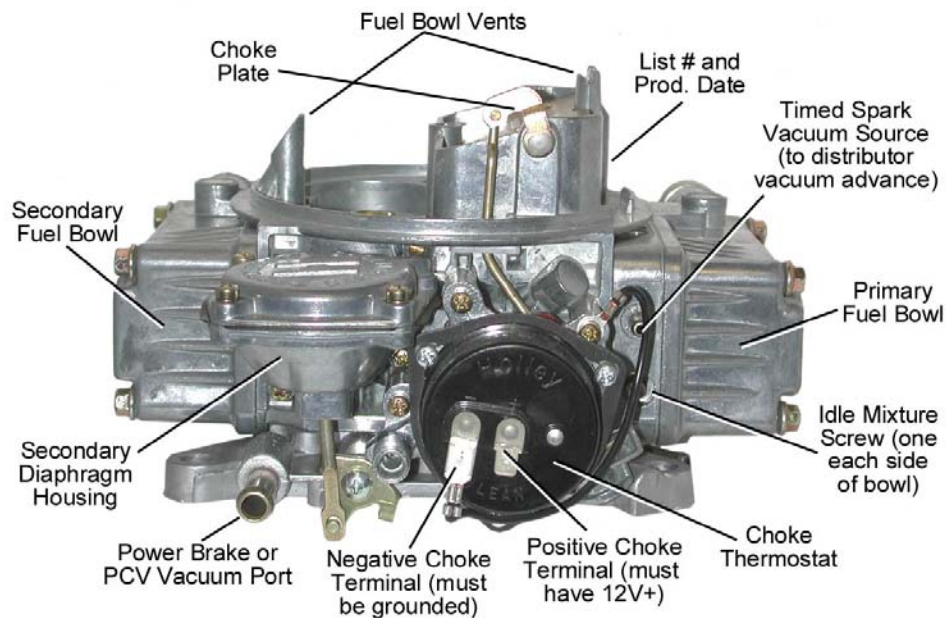
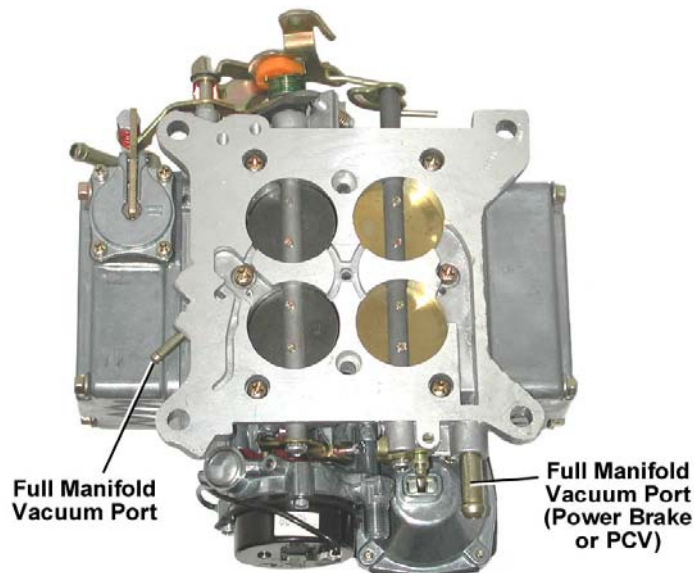

Figure 2a. (0-81851S shown, Choke air intake not drilled)
Figure 3
6. Reconnect the appropriate vacuum hoses to the carburetor, noting the correct fitting from Figure 2a and Figure 3. Replace any cracked or dry rotted hoses at this time to prevent any vacuum leaks.
8. Connect the power brake and/or PCV hose to the fitting as shown in Figure 3.
1. Attach the vacuum gauge to a manifold vacuum port on the throttle body (Figure 3).